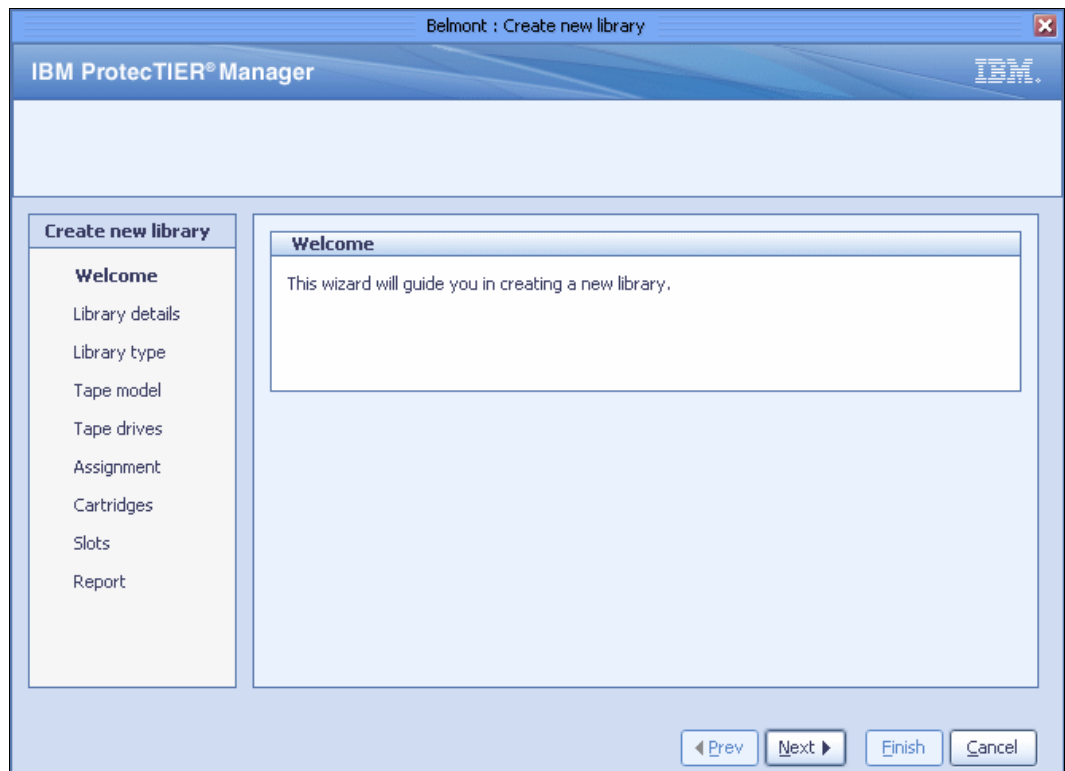

Figure 4-1 Create new library: Welcome window
2. From the menu bar, click **VT** → **VT Library** → **Create new library**. The Create new library wizard Welcome window opens (Figure 4-1).